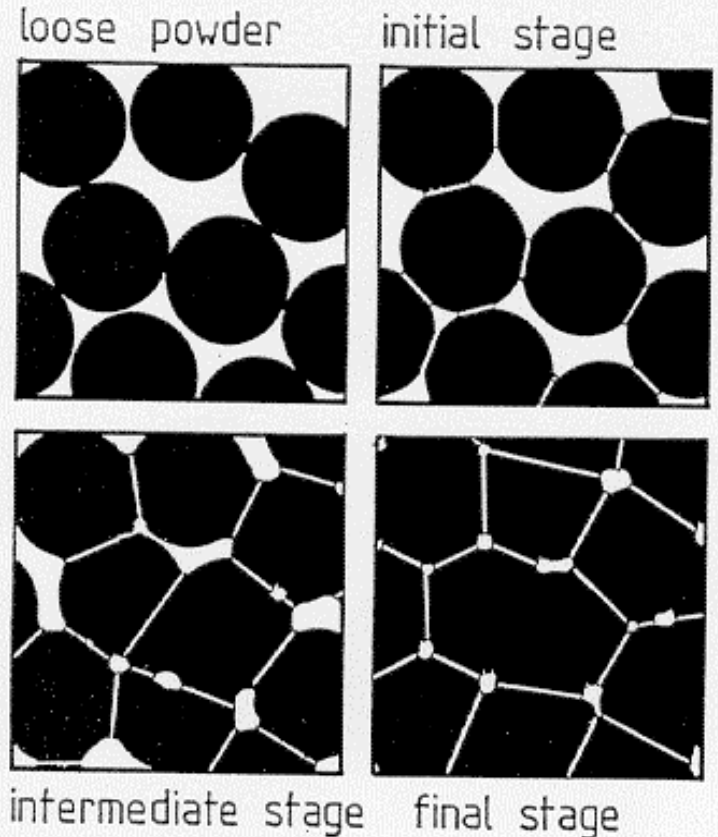

Figure 1: Schematic of loose powder sintering (20).
Figure 1. Representative metal powders: (a) chemical: sponge iron-reduced ore; (b) Electrolytic: copper; (c) Mechanical: milled aluminum powder; (d) Water Atomization: iron; (e) Gas atomization: nickel-base alloy (3).